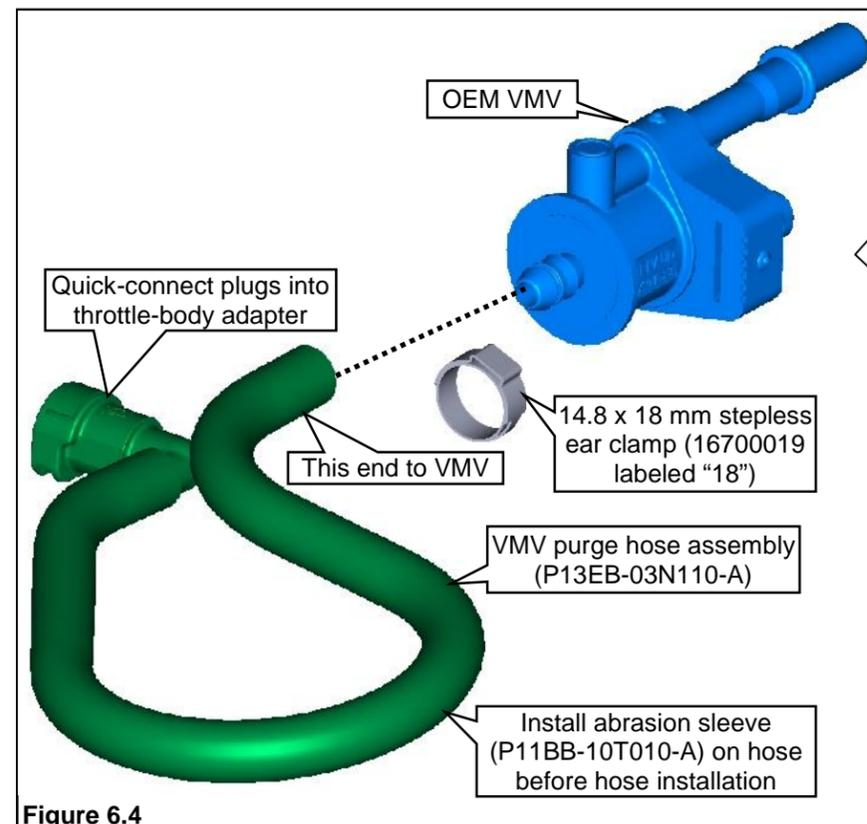

Figure 6.4
7. Slide the abrasion sleeve onto the VMV engine purge hose. Connect the VMV engine purge hose assembly to the VMV and secured with a stepless ear clamp (labeled "18"). **Note:** This clamp should NOT be tightened until after the orientation between the VMV and hose is correct with the assembly installed. **Figure 6.4.**